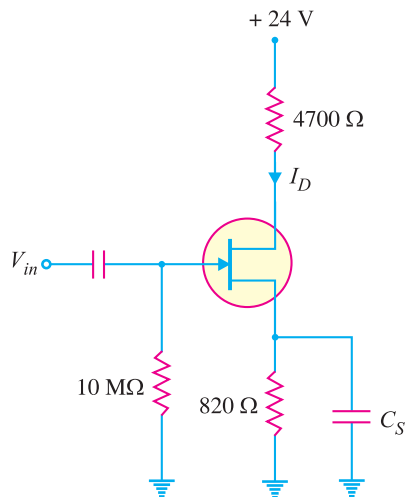

Fig. 19.64
3. In the *JFET* circuit shown in Fig. 19.64 if $I_D = 1.9$ mA, find V_{GS} and V_{DS} .